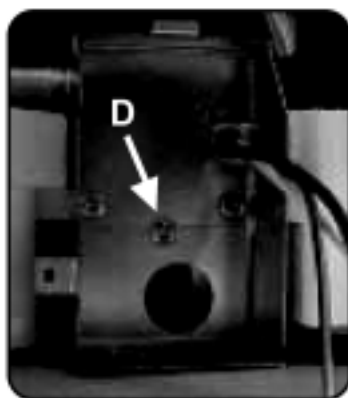

Figure 14/illus. 14
2) Remove the strain relief plate by removing the screw at the back of the junction box, as shown in Figure 14, letter D and sliding the strain relief plate out.